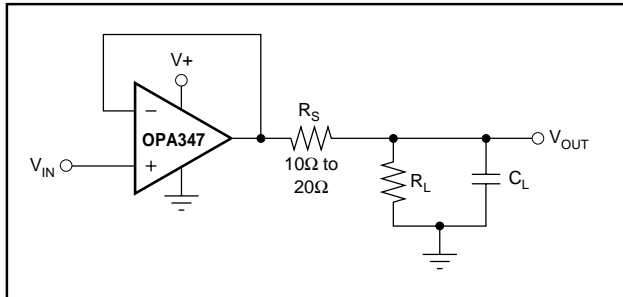

FIGURE 6. Series Resistor in Unity-Gain Buffer Configuration Improves Capacitive Load Drive.
The OPA347 in a unity-gain configuration can directly drive up to 250pF pure capacitive load. Increasing the gain enhances the amplifier’s ability to drive greater capacitive loads (see the typical performance curve “Small-Signal Overshoot vs Capacitive Load”). In unity-gain configurations, capacitive load drive can be improved by inserting a small (10Ω to 20Ω) resistor, R_S , in series with the output, as shown in Figure 6. This significantly reduces ringing while maintaining dc performance for purely capacitive loads. However, if there is a resistive load in parallel with the capacitive load, a voltage divider is created, introducing a Direct Current (DC) error at the output and slightly reducing the output swing. The error introduced is proportional to the ratio R_S/R_L , and is generally negligible.